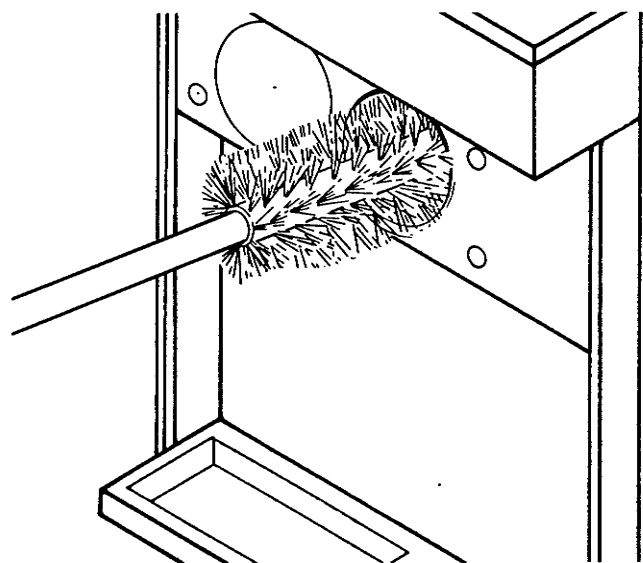

Figure 26. Cleaning Freezer Barrel
B. Wash the hopper and freezer barrel with warm detergent water and brushes provided (Fig. 26).